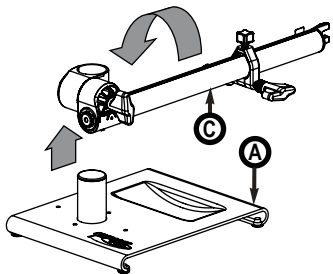

FIG. 1
1. Remove Mast Assembly (C) and flip 180 degrees. (FIG.1)